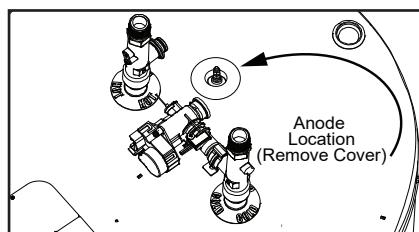

Figure 32 - Anode location.
- 4** Once the anode rod is exposed, remove the top nut with a 10 mm hex socket wrench and remove the wire terminal (do not remove lower hex nut from bolt). With the wire terminal removed, use a 1-1/16" deep socket wrench with an extension to remove the anode rod. Inspect the anode rod and replace if depleted. Apply thread sealant tape or pipe joint compound and reinstall the anode rod tightly. Connect the wire terminal and secure with hex nut. See Figure 32.